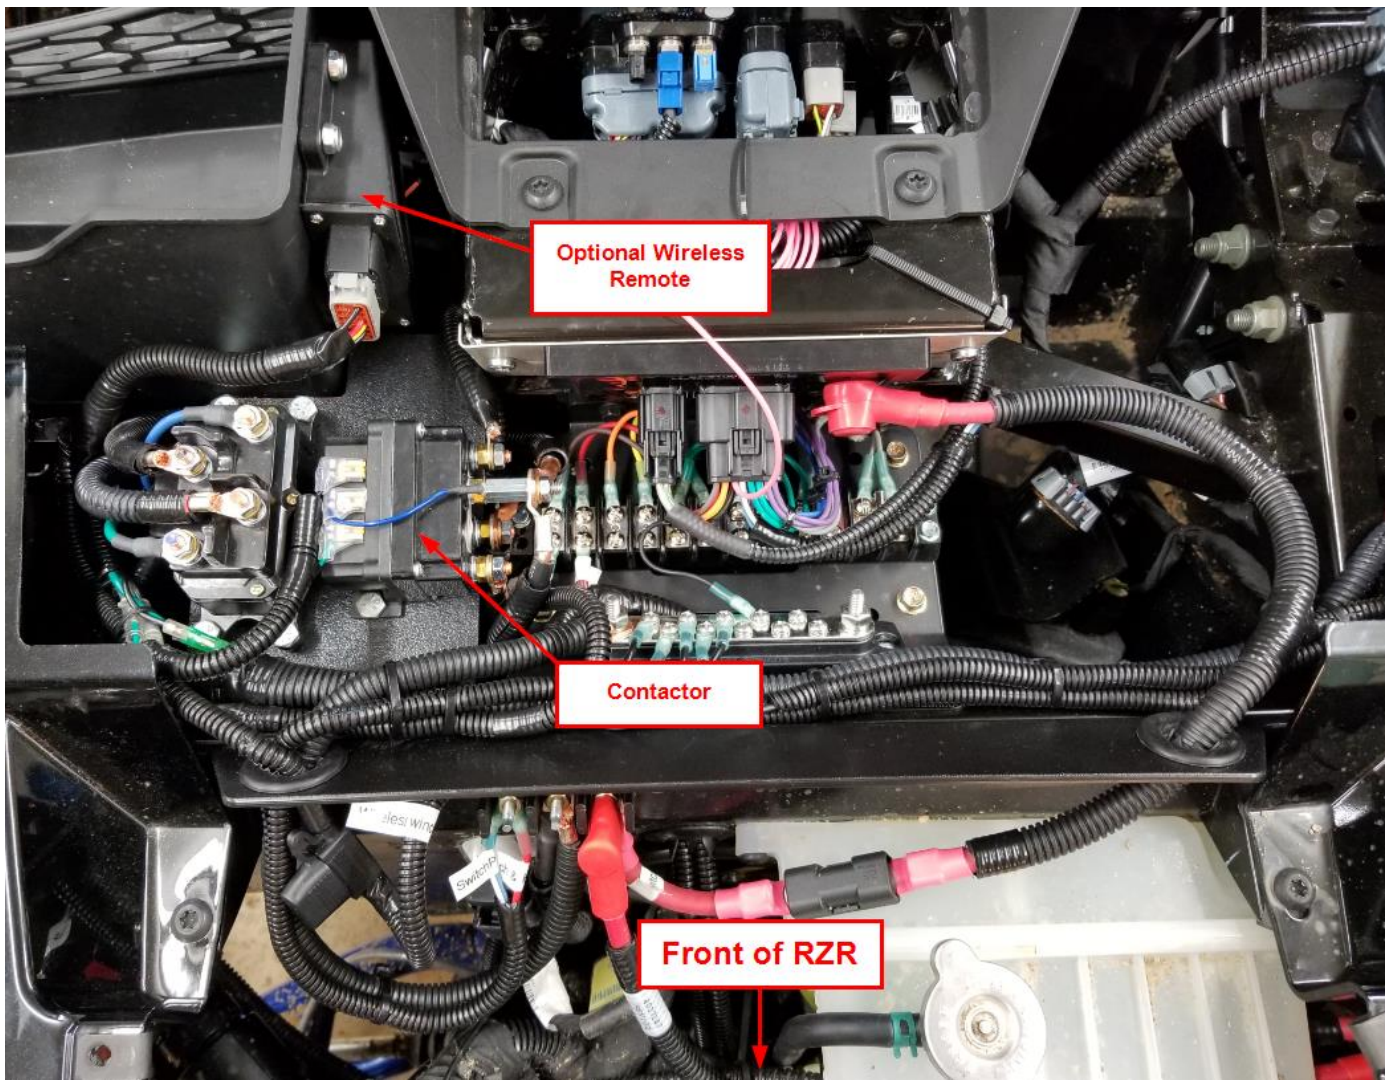

Figure 8
10. Mount the contactor and optional wireless remote as shown in Figure 8.